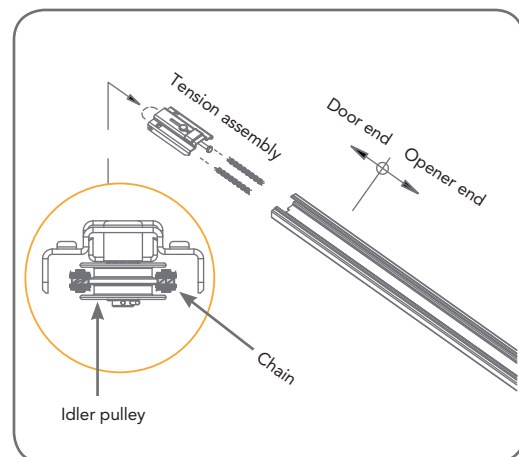

fig 06
- Loop the chain onto the pulley of tension chain assembly. Slide the tension chain assembly with chain into the track (Fig. 06).